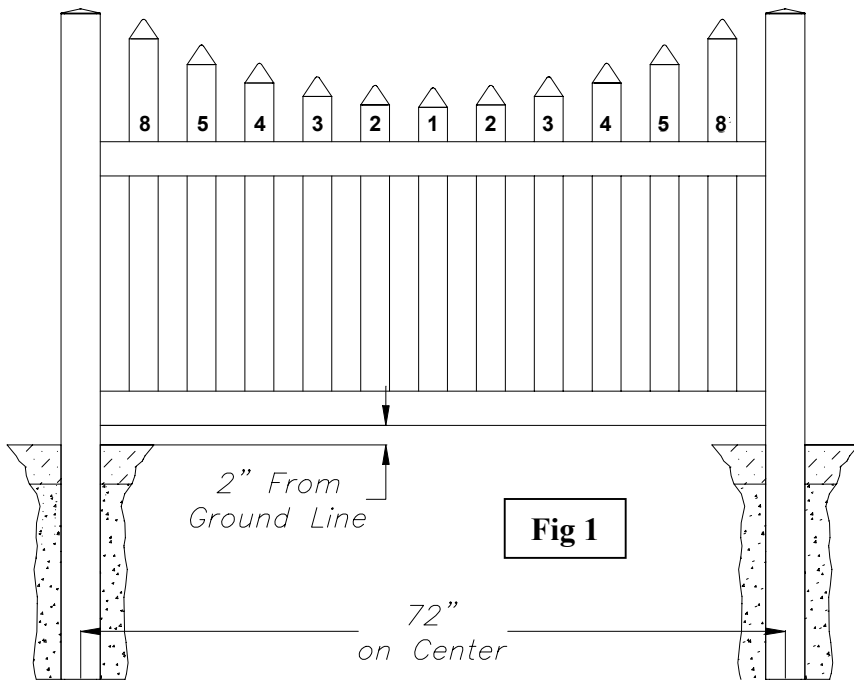

Fig 1
1) Dig postholes 72" on center. Holes should be 9-12" in diameter and 30" in ground. (Fig. 1)
7) Install pickets by inserting down through the top rail and locking tabs into the bottom rail. Longer pickets are to the outside with the shortest picket in the middle. There are 2 pickets of each size except the center picket. Pickets are numbered on the inside and correspond as shown in Fig. 1. **Make sure that the pickets are in the correct position before locking in place!**